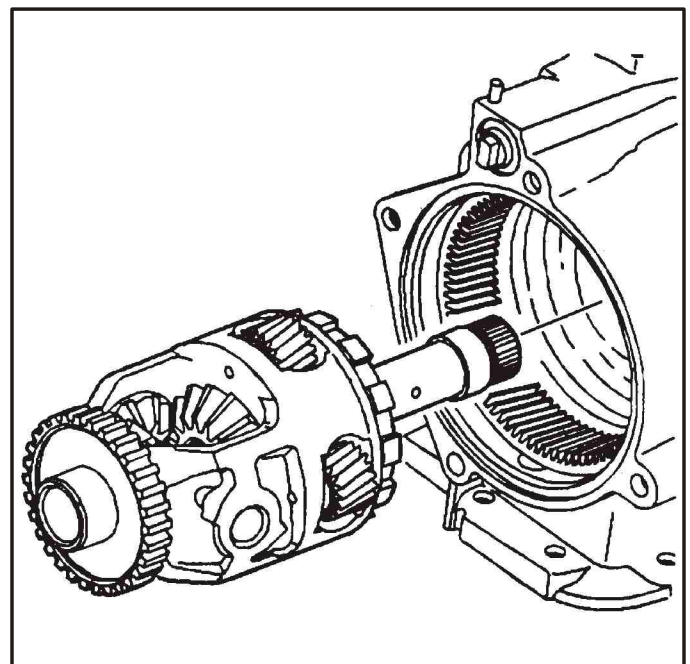

Figure 149
10. Install the final drive sun gear shaft through the park gear splines and the final drive sun gear splines (See Figure 149).
13. Install the completed final drive assembly into the transaxle case and engage with the final drive ring gear (See Figure 149).